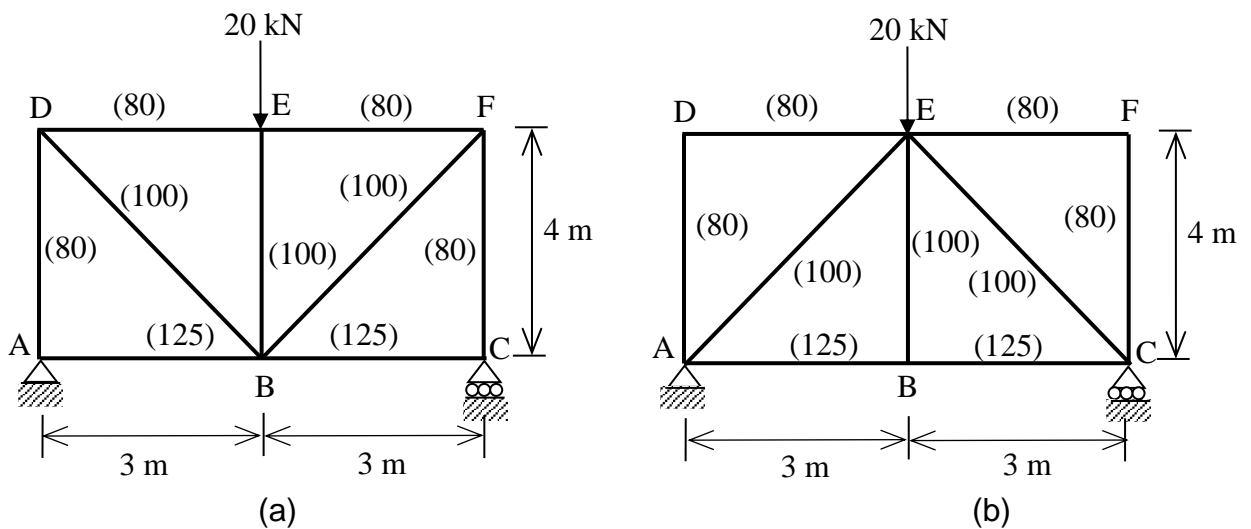

Figure 1 / Rajah 1
- (b). Determine the vertical displacement at point B for the trusses shown in **Figure 1** if a concentrated load of 20 kN is applied vertically downward at point E. The cross-sectional area of each member is given in parentheses (mm^2) and the modulus of elasticity is 200 GPa. Consider the axial deformation only. Use virtual work method.